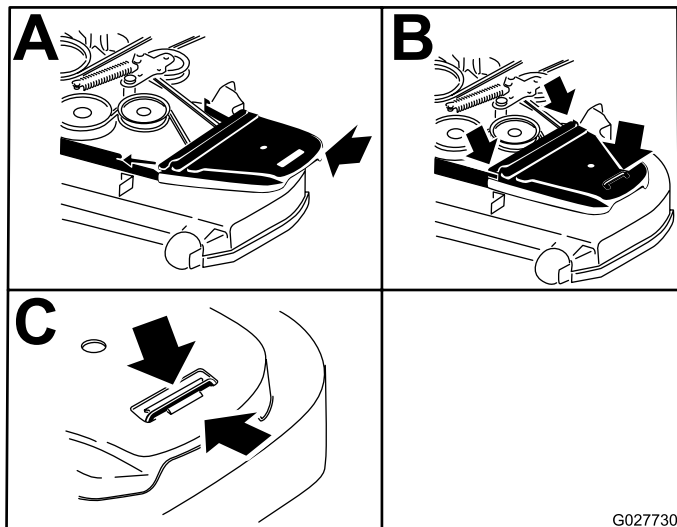

Figure 96
9. Install the belt covers (Figure 96).